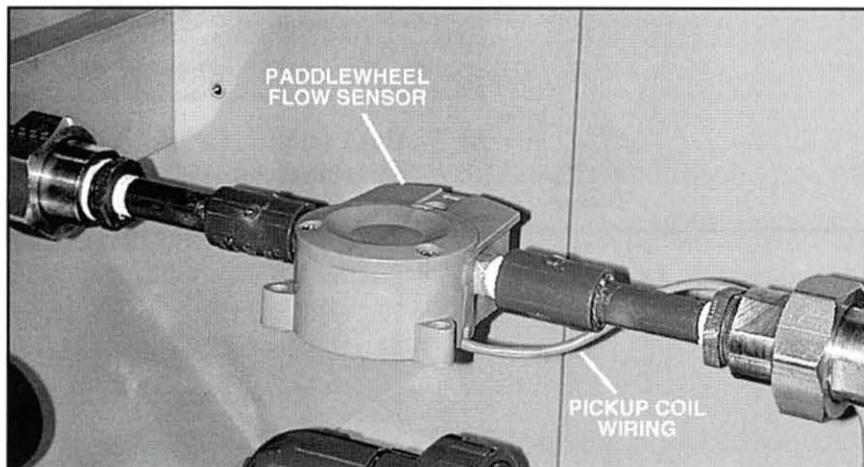

Figure 46. Paddlewheel Flow Sensor on the T5552
- ❑ 2. Locate the paddlewheel flow sensor on the T5552, as shown in figure 46.